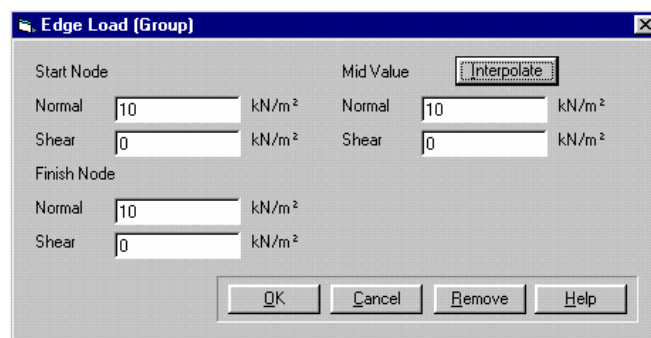

Figure 4-23: Defining the Strip Load
- Step 6** The Edge Load dialogue box should now look like Figure 4-23. Click on **OK** to exit, once you have finished.